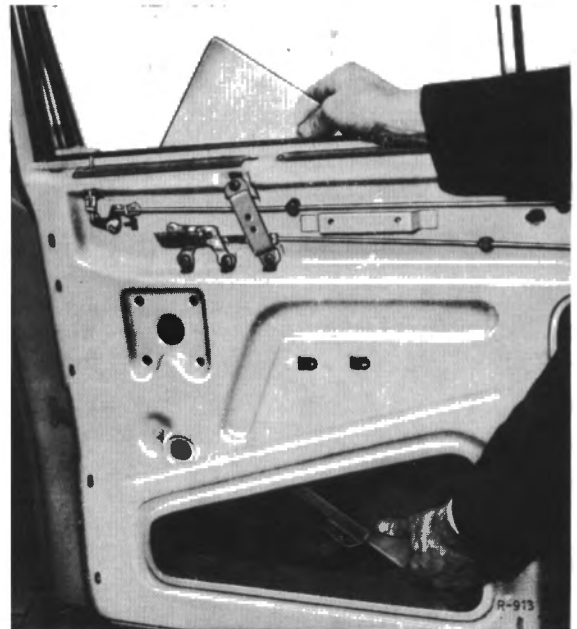

Fig. 72-8/3
8. Pull the window run channel slightly toward the hinge side (front door) or toward the lock side (rear door). This frees the sliding window; get a hold on the pane through the opening in the door inner panel, turn it 90° inside the window shaft, and remove upward (Fig. 72-8/3).